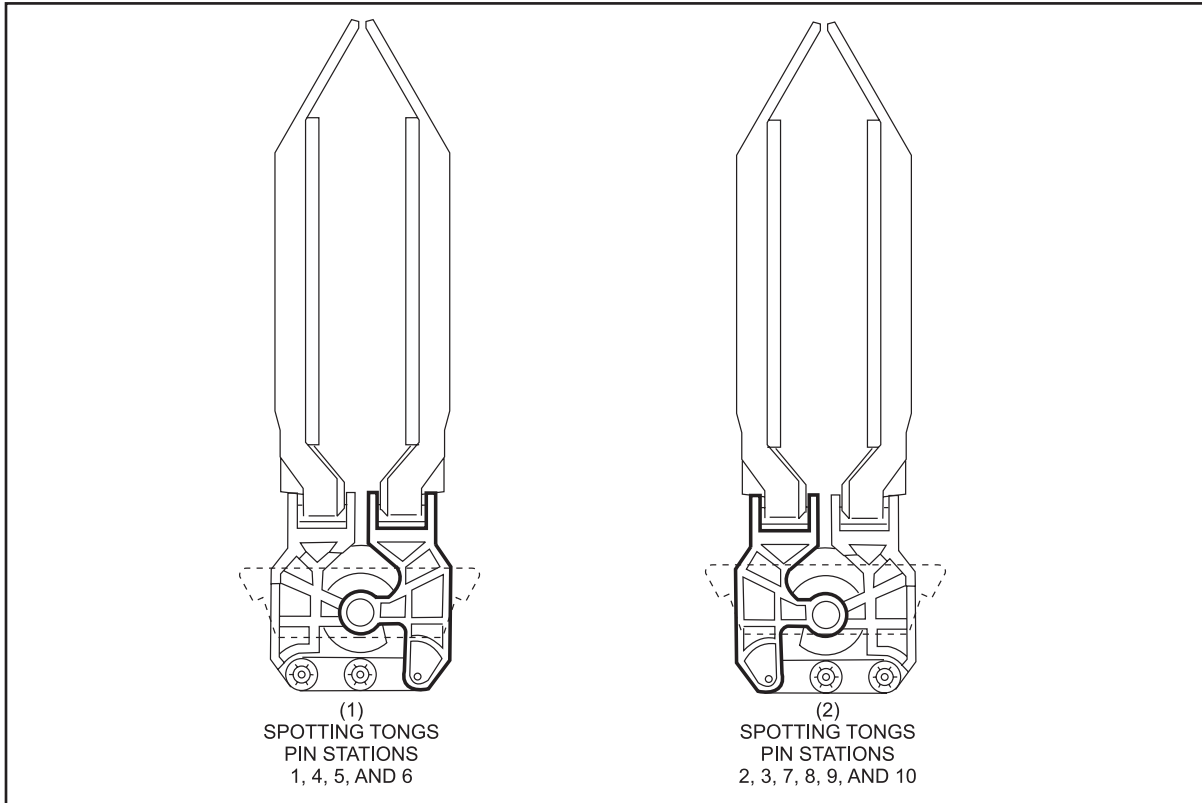

Figure 8-7. Spotting Tongs
5. Select the correct type depending on the position of the tongs in the table. Refer to *Figure 8-7*.